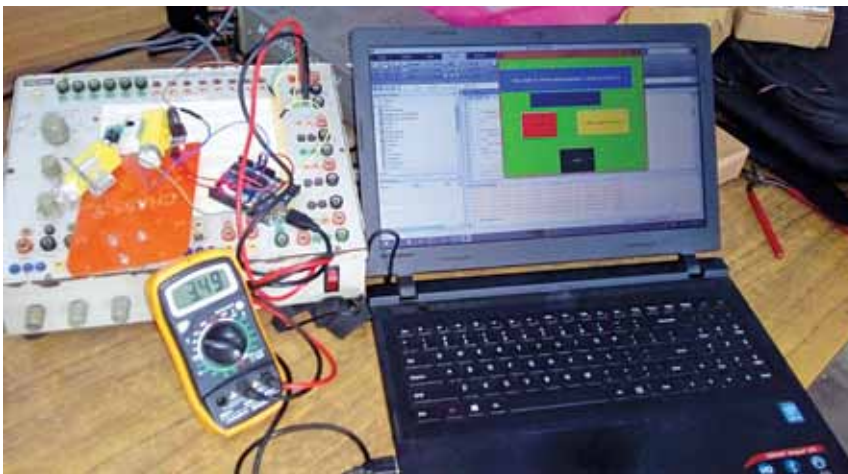

Fig. 1: Authors' prototype for speed sensing
**Y**ou can now get samples of real-time speed of a DC motor in MS Excel format using a MATLAB Graphical User Interface (GUI). The variations in motor's speed are also plotted automatically at the end of data acquisition. The GUI communicates with an Arduino that is interfaced with the speed sensor. The authors' prototype of the project is shown in Fig. 1.